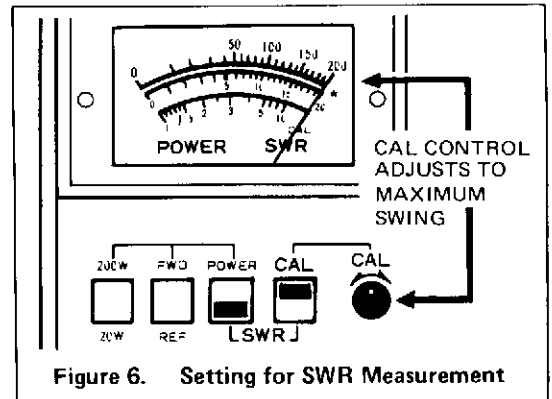

Figure 6. Setting for SWR Measurement
- a. Set the controls as illustrated in Figure 6. Set the ANT switch to the "THROUGH" position to which a desired antenna is connected.